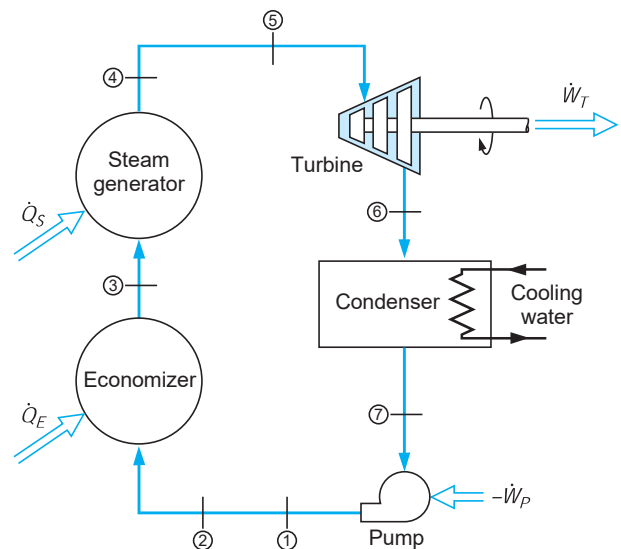

FIGURE P6.103
- 6.103** The following data are for a simple steam power plant as shown in Fig. P6.103. State 6 has $x_6 = 0.92$